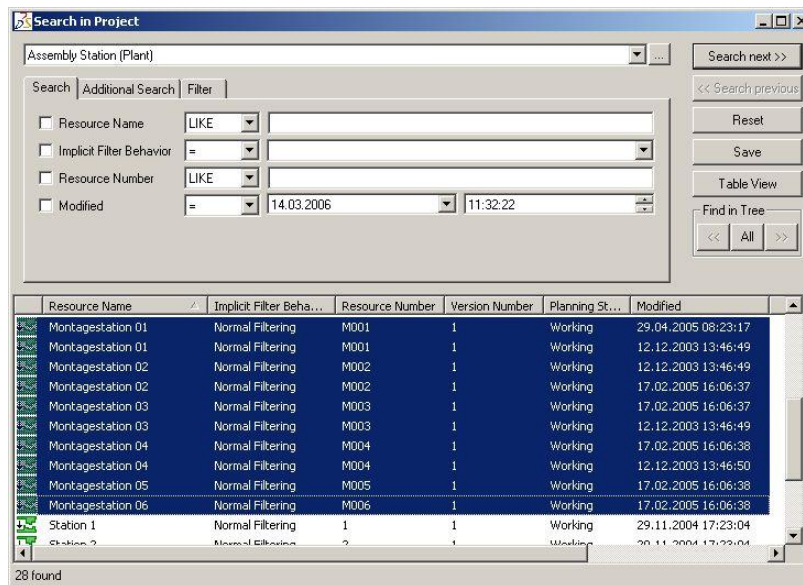

Figure 17: Make Selections in the List View of the Finder
- 1) Select the objects in the list view of the finder – Figure 17 shows the project finder.